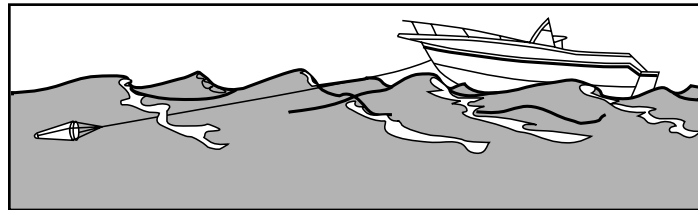

FIGURE 3.5 SEA ANCHOR
- If you lose power, keep the boat headed into the waves by rigging a sea anchor off the bow (Figure 3.5). If there is no sea anchor on board, use a canvas bucket or any object that will offer resistance.